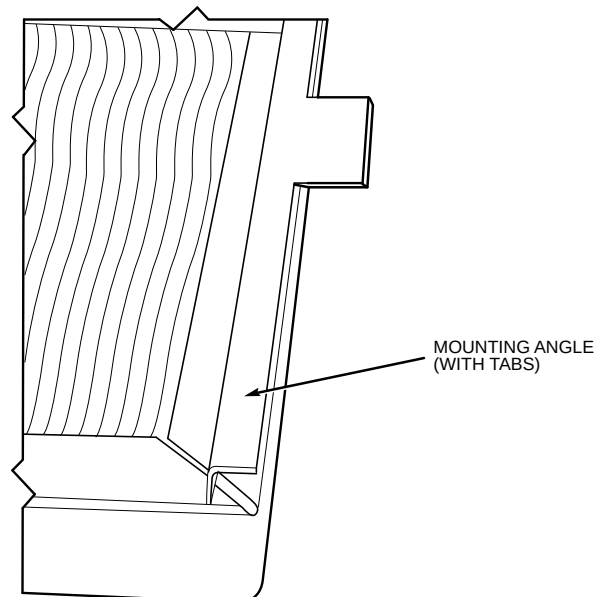

Fig. 26 — Mounting Angle (With Tabs) Attached to Filter Track Assembly
15. Attach remaining mounting angle (with tabs) to other end of the filter track with no. 10 screws provided. See Fig. 26.